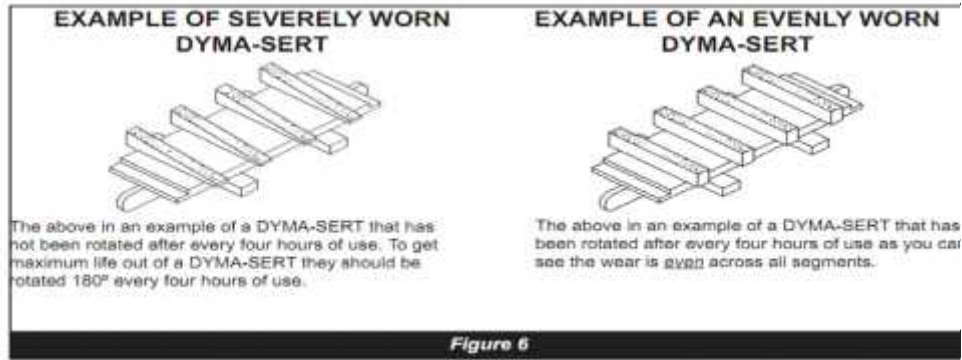

Figure 6
- Check accessories for damage (see figure 6, below), the type of wear or damage will vary with the type if accessory.